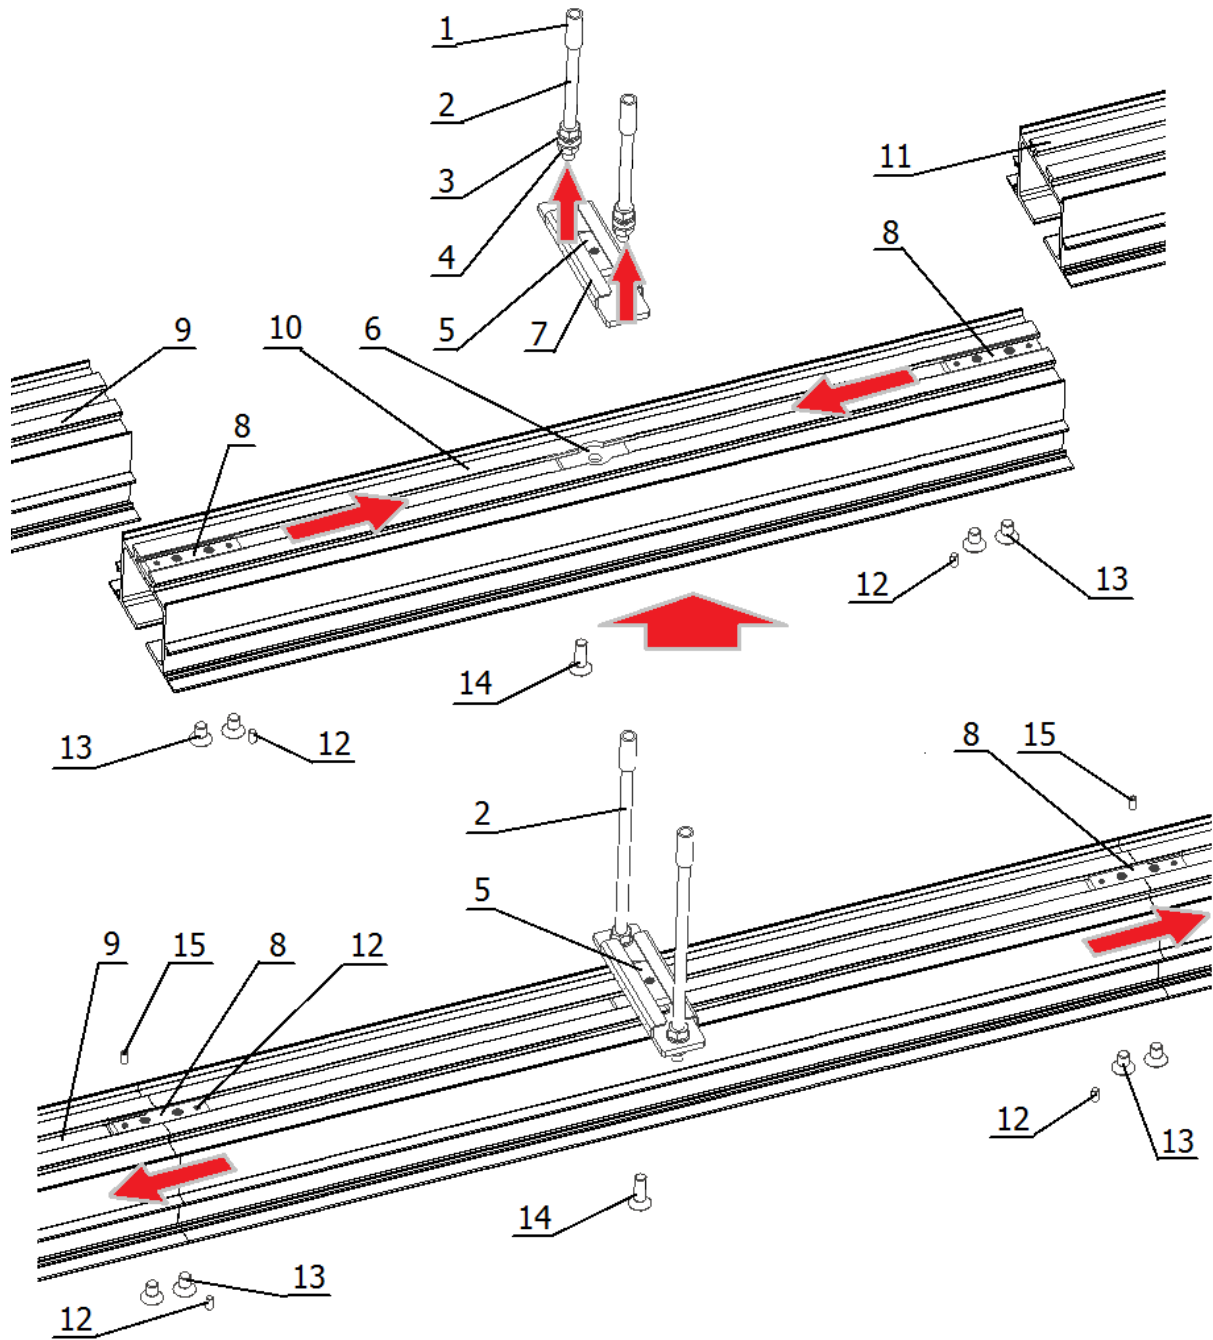

Fig.32. Assembly diagram of the service module for tracks 34-0150 and 34-0151
This is a necessary section of the track because its assembly and disassembly allows the mobile panel to be moved into the adjacent track by a carriage, i.e. **to install the panel in the track (chapter 7.3)**. The service module is mounted **on one own standard suspension** (Fig.32 i 33).
1. **Insert the unthreaded fastening plate (6)** into the service module (10)
2. **Insert reinforced service plates (8)** into the service module (10) on both sides (red arrows in Fig.32) so that they do not protrude beyond the ends of the module
3. **Screw in the M6x14 push screws (12)** to secure the service plates (8)
When connecting the service module in track 34-0150 and 34-0151 (Fig. 32), **side sheets connecting the track are not used** (item 30, chapter 2)